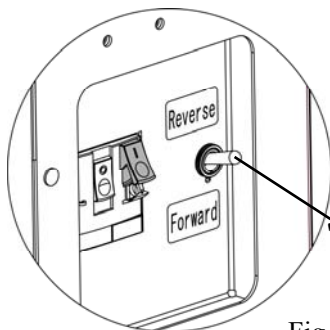

Fig. 1
- When using a printed film (on which pictures and characters are printed), the printed surface comes to the front or back of the garment. This machine is equipped with a "Forward/Reverse" switch in the right of the power switch so that you can select a rotational direction of the feed roller according to the printed surface of the film. (Fig.1)